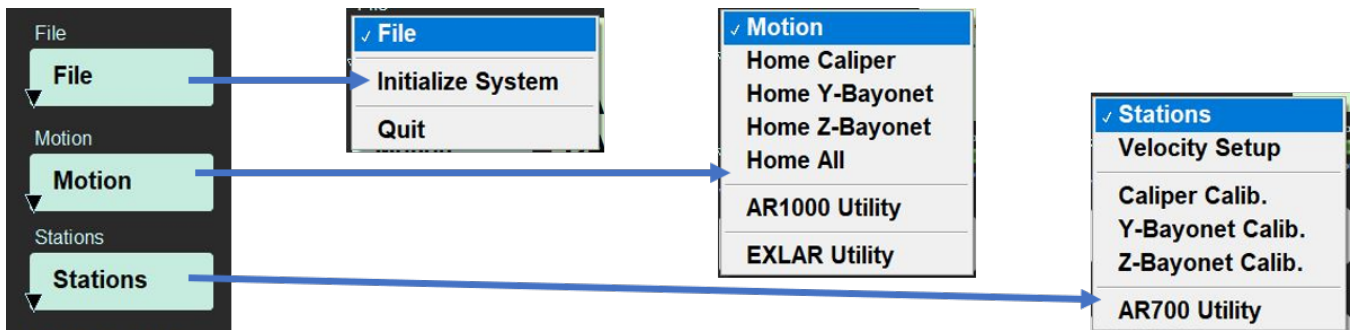
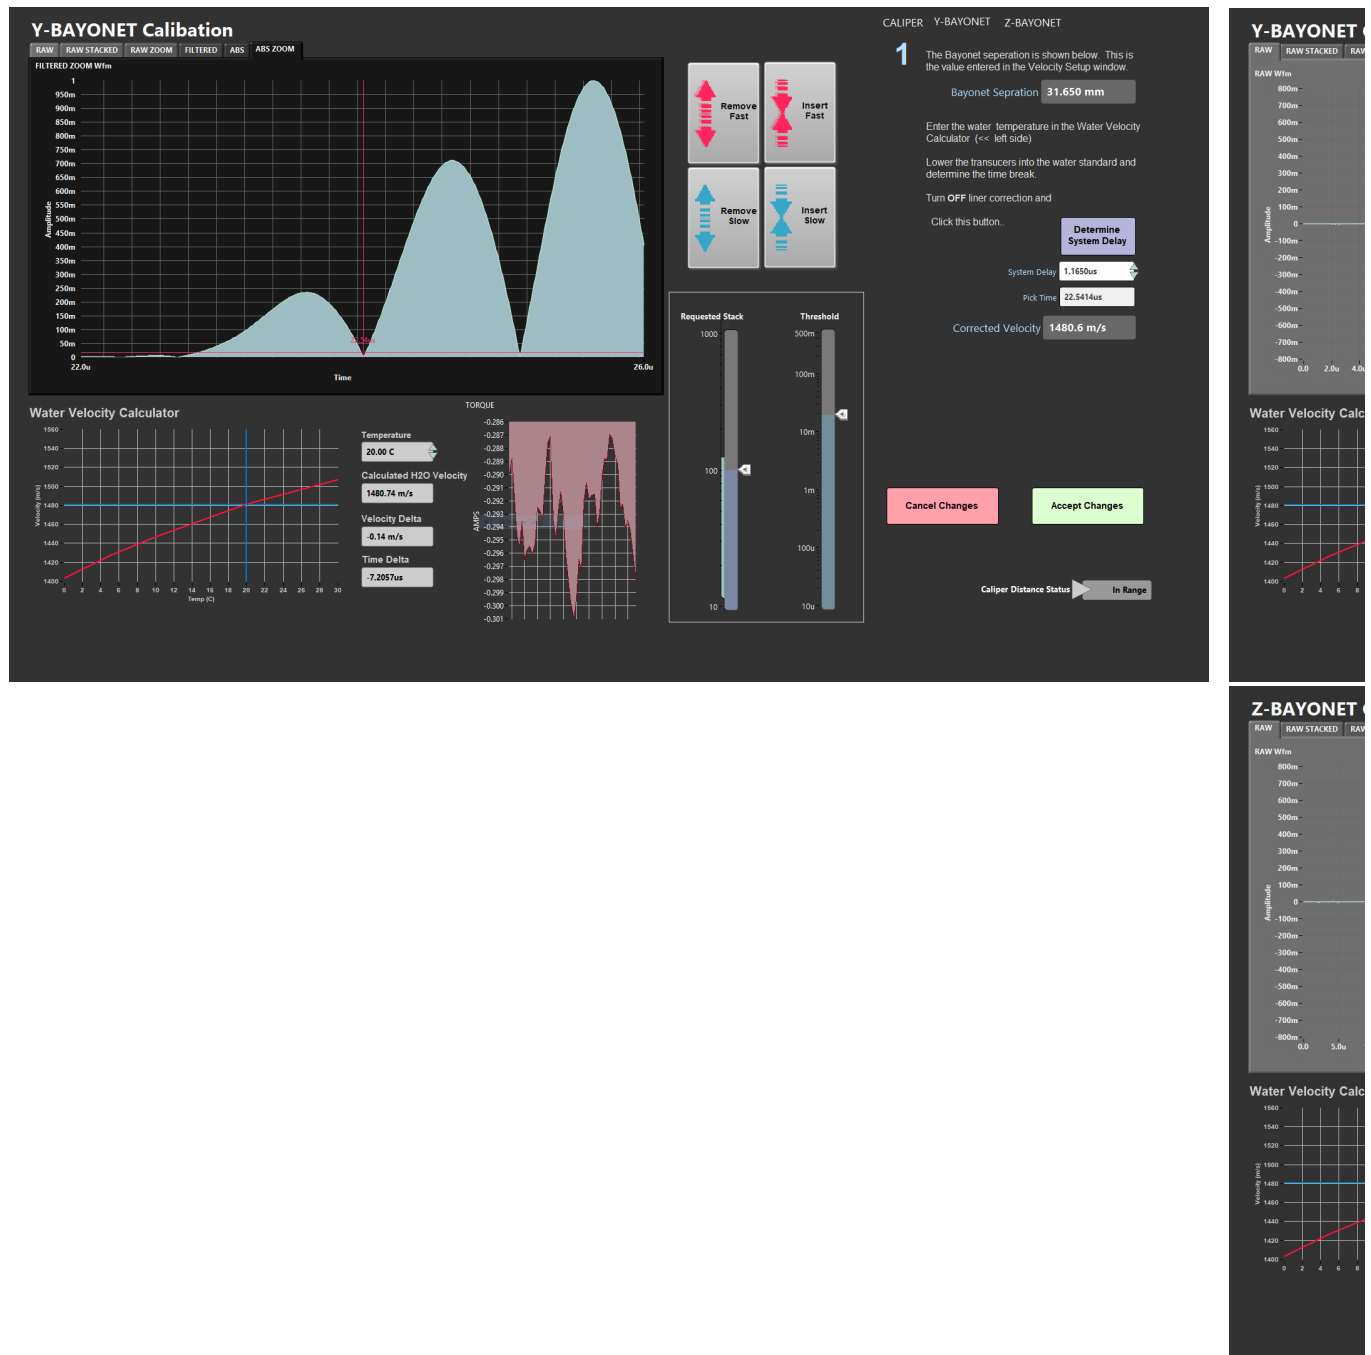
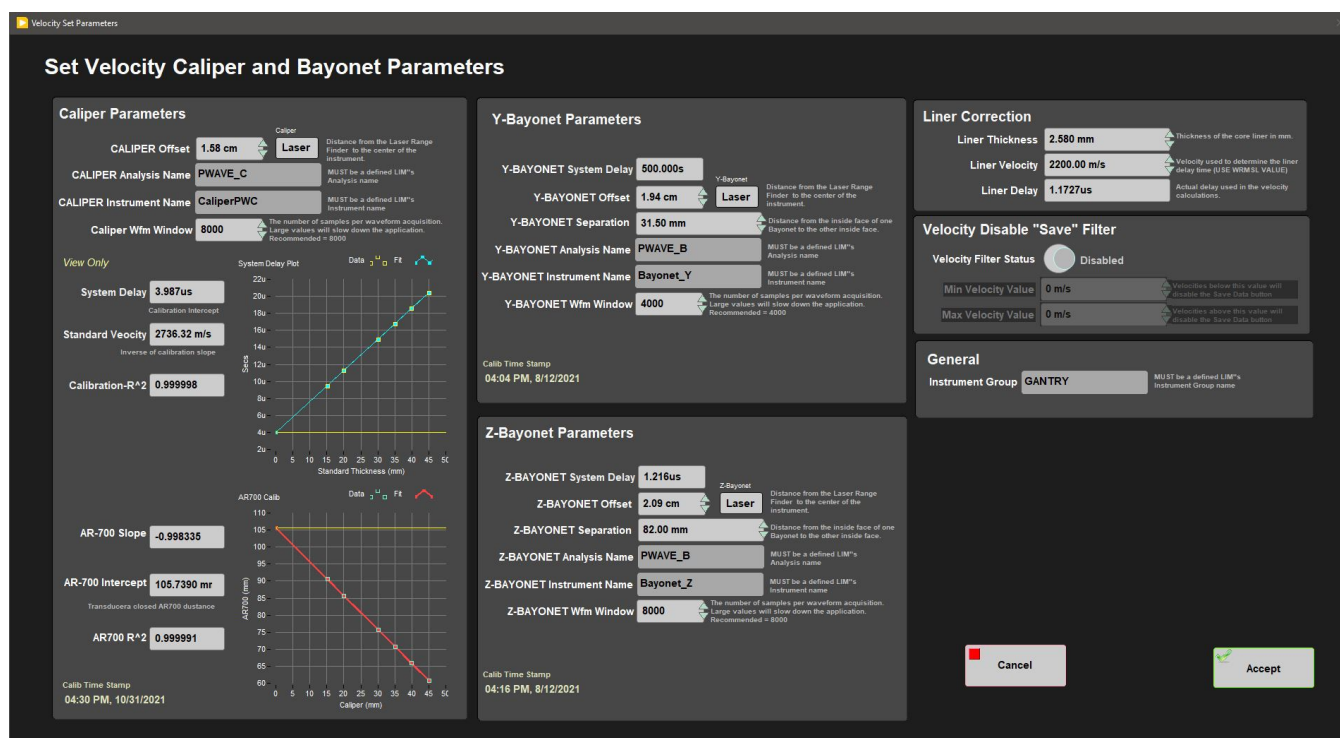

Figure 5. IMS Control Panel.
Figure 12. Y-bayonet and Z-bayonet Calibration windows. Y-bayonet raw graph tab (left), Z-bayonet raw graph tab (center), Y-bayonet ABS Zoom graph tab (right).
Figure 13. Velocity Parameters Window
8. **IMS Control panel** (*Figure 5*): Provides access to utilities/editors via drop-down menus.
To open the Caliper Calibration Utility select: **Stations > Caliper Calib.** from the IMS panel menu (Figure 5). The Caliper Calibration window will open (Figure 6).
To open the Bayonet calibration window (Figure 12), select **Stations > Y-Bayonet Calib. or Z-Bayonet Calib.** from the IMS panel menu (Figure 5).
1. Fill the bayonet calibration liner with DI water (Figure 13). The water level must be high enough that the black transducer pads on the bayonets can be placed below the water line without touching the liner itself. The water should be at room temperature if possible.
4. Verify the bayonet separation value. If the value is incorrect, go to the **Velocity Setup window** (Figure 13) to edit the value.
To open the Velocity instrument setup window (Figure 13), select **Stations > Velocity Setup** from the IMS panel menu (Figure 5).
1. Ensure the values in the window are set as shown in Figure 13.
If the mean distance shown does not agree with the instrument offset in the Velocity Setup Window (Figure 13), the offsets reported in the database will be incorrect.